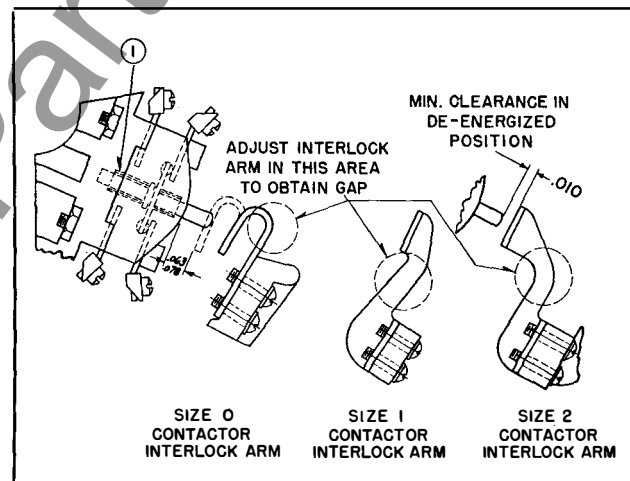

FIG. 3 Operating Arm Adjustment
2. Place interlock assembly on contactor base (as shown in Fig. 1) making sure that spring (1) in Fig. 3 does not foul movement of plunger.
4. Mount interlock arm (as shown in Fig. 3) and secure in place.